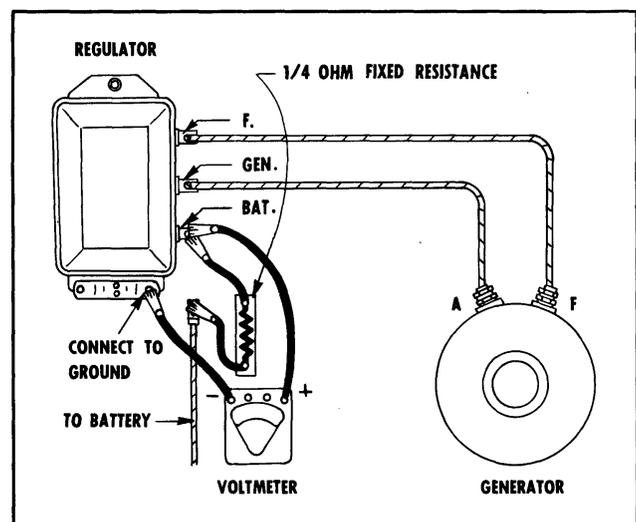

Fig. 13-7 Checking Voltage Setting
1. Connect a 1/4 ohm fixed resistor (approximately 25 watts) into the charging circuit at the "BAT" terminal of the regulator. (See Fig. 13-7)